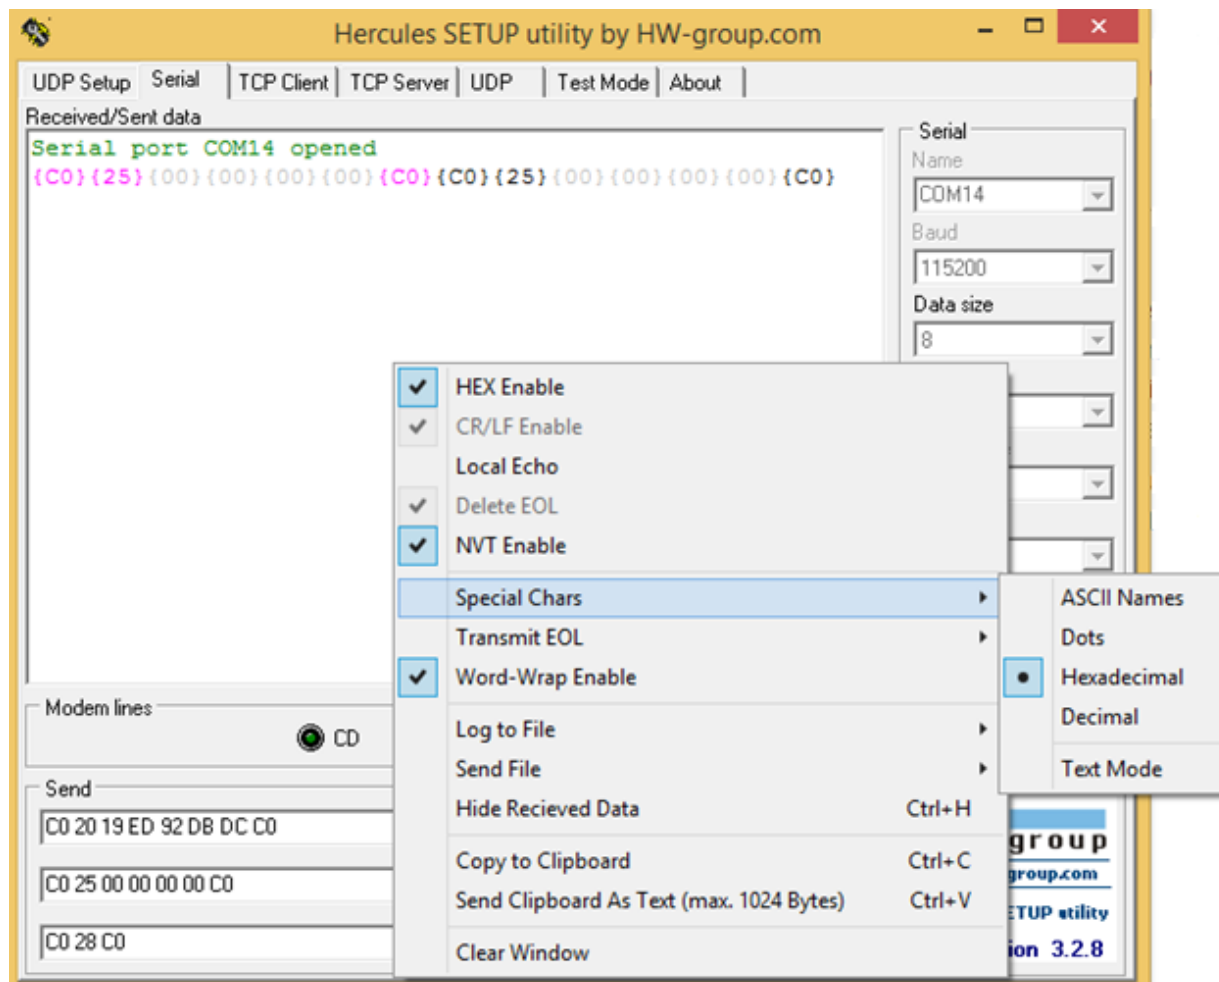

Figure 4 - Hercules SETUP utility settings
2. Connect USB-to-UART converter TX to J301 UART1\_RXD pin (4) and RX to J301 UART1\_TXD pin (5).
3. Connect USB-to-UART converter +3.3V pin to J301 Vcc\_SYS pin (8).
4. Connect USB-to-UART converter ground pin to J301 ground pin (7).
9. Press the right mouse button on the Received/Sent Data screen and ensure that "Hex Enable" and "Special Chars -> Hexadecimal" are turned on (refer to Figure 4)